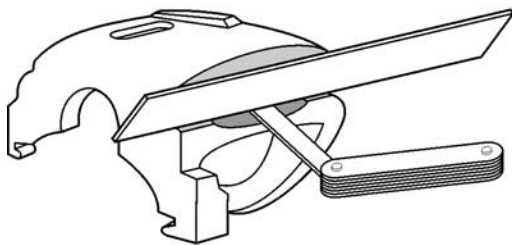

Figure 1
1. After removal and cleaning of caliper, lay a straight edge across the caliper v-way surfaces (see figure 1) and measure the maximum depth of any wear on these surfaces with a feeler gauge. CALIPERS WORN TO A DEPTH OF .050" OR MORE MUST BE REPLACED.